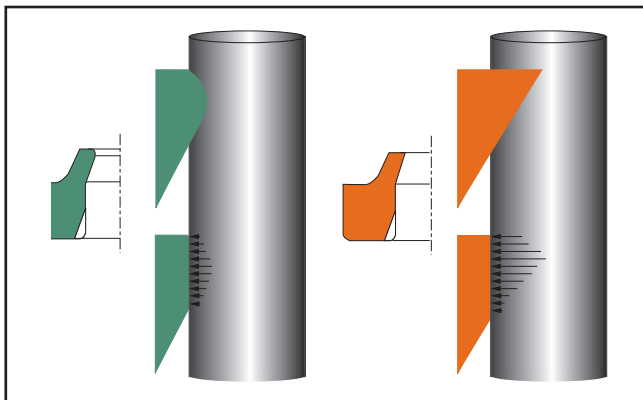

Figure 8-1. Radius vs. Straight Cut Lip Geometry
3. **Lip Geometry:** Parker wipers are designed to give the best possible exclusion performance by featuring perpendicular, or "straight-cut" lip geometries. The footprint of a sharp, straight-cut wiper causes a high concentration of force which maximizes fluid film breakage while allowing contaminants to be pushed away from the wiping edge. (See Figure 8-1.) The footprint of a radiused lip, however, often results in a poor concentration of force. Although they are less costly, radiused lip geometries can trap contamination against the rod, lifting the wiper up and opening a gateway for further